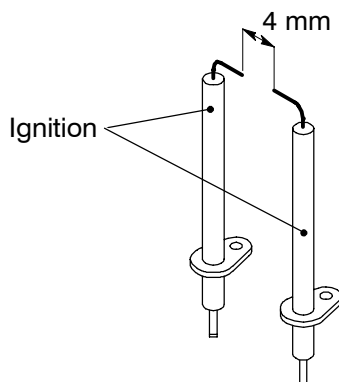

Fig. 85
- 2 Check for the correct distance between the metallic edges of the ignition electrodes (see Fig. 85).